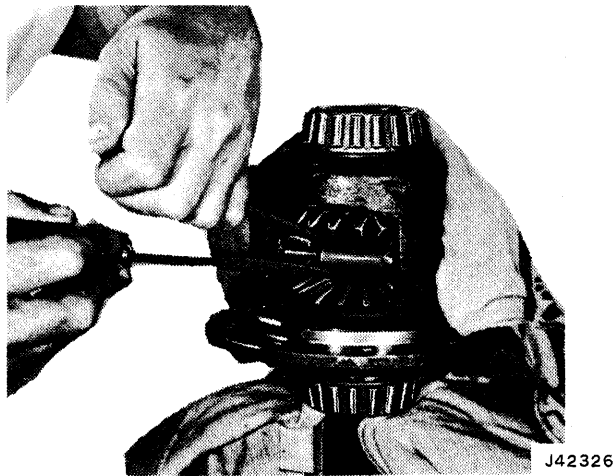

Fig. 10-61 Removing Snap Rings from Pinion Mate Shaft
(6) Remove ring gear from case using rawhide hammer.
(7) Remove differential case from axle shaft and remove ring gear.
(8) Mount differential case on axle shaft.
(9) Remove snap rings from pinion mate shaft (fig. 10-61). Use two screwdrivers to disengage snap rings. Place shop towel on opposite opening of case to prevent snap rings from flying out of case.